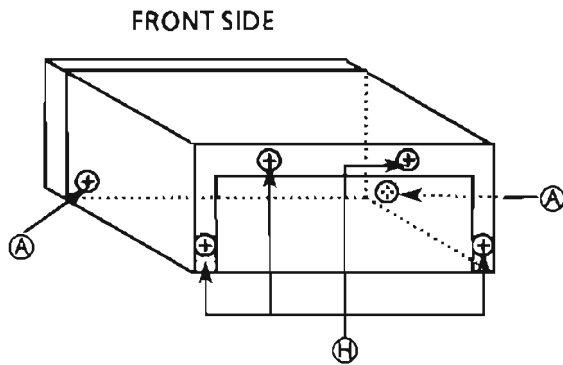

Fig. 1
(2) Life of the laser diode (Fig.1)